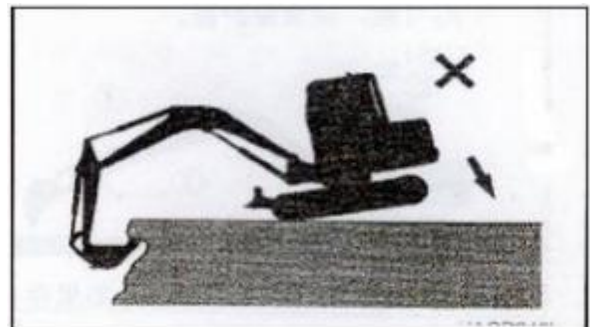

Fig 3-31
8. Do not use the weight of the equipment to increase the digging force of the equipment (Figure 3-31).